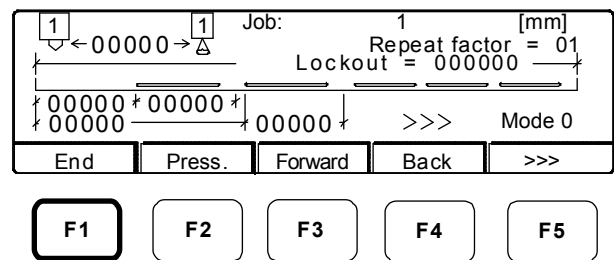

Figure 14-17. Glue-Pattern-Edit Menu
2. Press F2 (Change). The glue-pattern-edit menu displays (Figure 14-17).